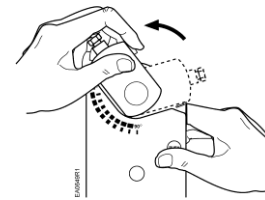

Figure 14.
- b. Hold down the **PUSH** button and rotate the shaft adapter to the left until it stops. Figure 14.